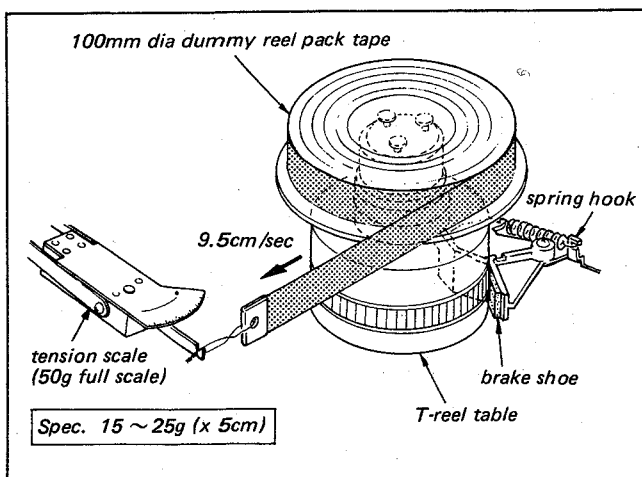

Fig. 5-1. Threading back tension adj. (EJECT and power OFF mode)
3. Hook a tension scale (50 g full scale) (Jig Ref. No. J-15) on an end of dummy reel pack tape. Pull out the tape at the constant speed of approx. 9.5 cm/sec in the direction shown in Fig. 5-1. Scale reading should be 15 g ~ 25 g (x 5 cm).